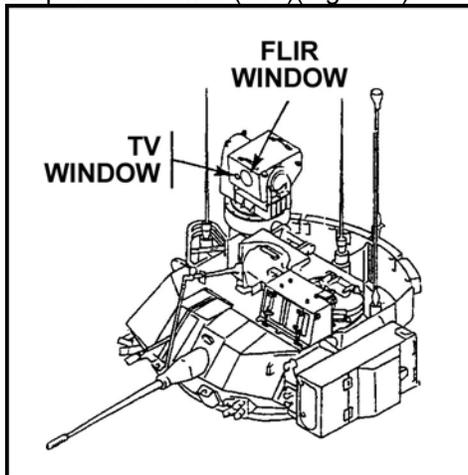

Figure 1. Commander's independent viewer.
1. Operate the commander's independent viewer (CIV)(Figure 1).